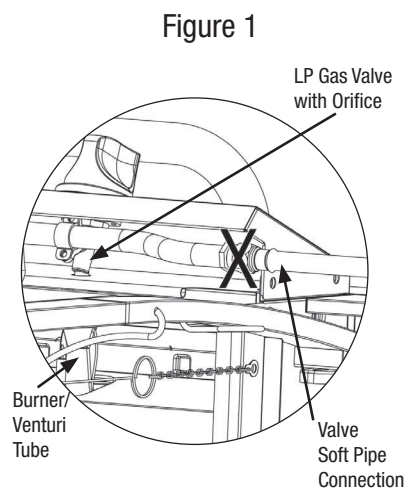

Figure 2
2. Make sure control knobs are in the "OFF" position (Figure 2).
3. All control knobs must be in the "OFF" position (Figure 2).